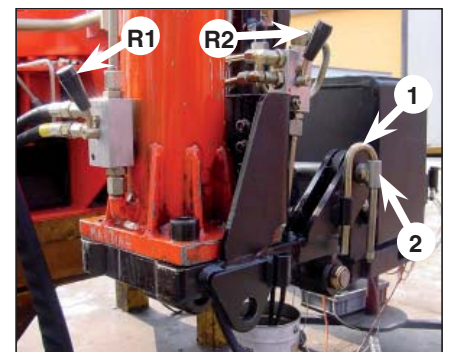

fig. 7
- **rotation of the outrigger ram n°1 from the rest position (fig. 7) to the working condition (fig. 9)**